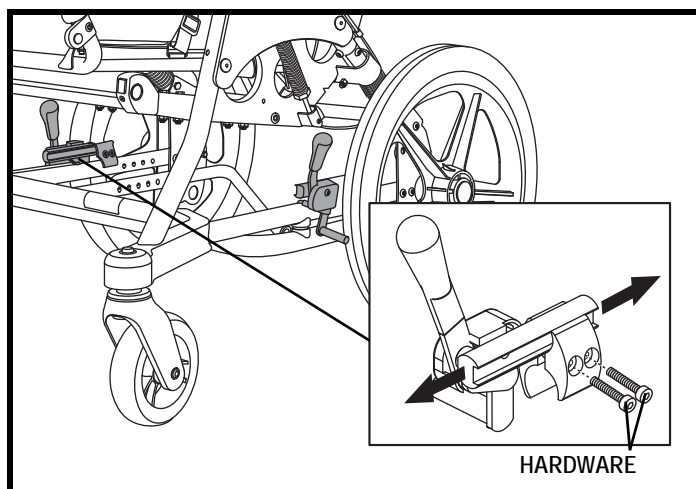

Figure 59. Manual Wheel Lock Adjustment
2. Loosen the hardware that fastens the wheel lock clamp to the frame. **See figure 59.**